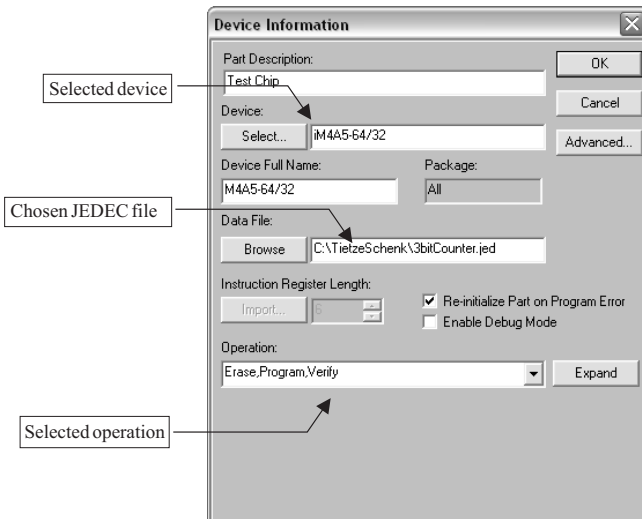
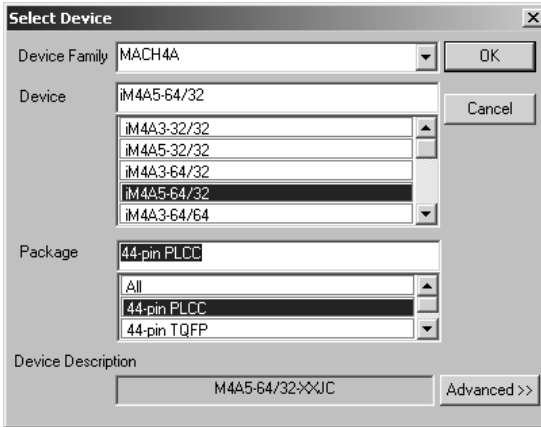

Fig. 29.2.45. JTAG Part Properties
Fig. 29.2.46. Select Device
- Double click on the Device in the list to be changed. Insert in the dialog the information on the Device by choosing Select (resulting in the menu in Fig. 29.2.46), the Data File (JEDEC-file) and programming operation as seen in Fig. 29.2.45.